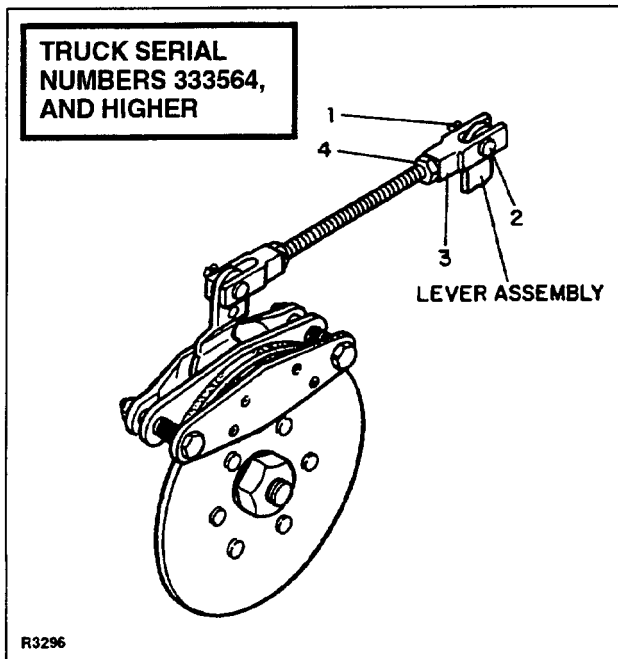

Figure 6-2. Adjustment For Truck Serial Numbers 333564 and Higher.
5. Remove the cotter pin (1, Figure 6-2), and pin (2) to disconnect the clevis (3) from the lever assembly.
6. Loosen the lock nut (4).